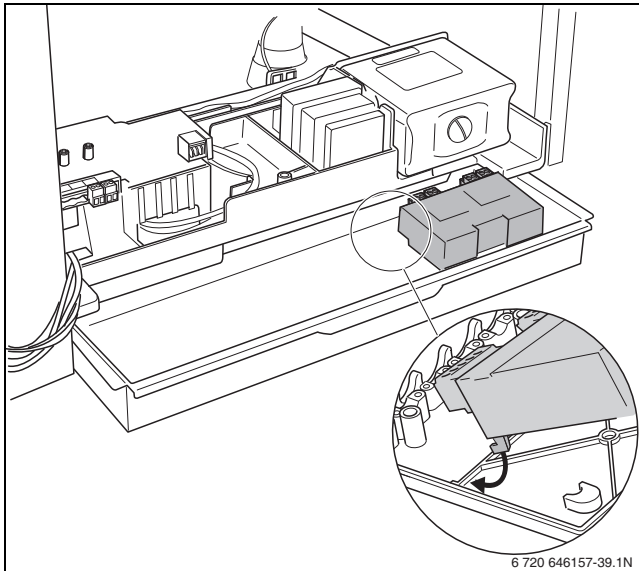

Fig. 42 Clicking the function module into position
- Click the function module(s) into position in the wall bracket (→ fig. 42).